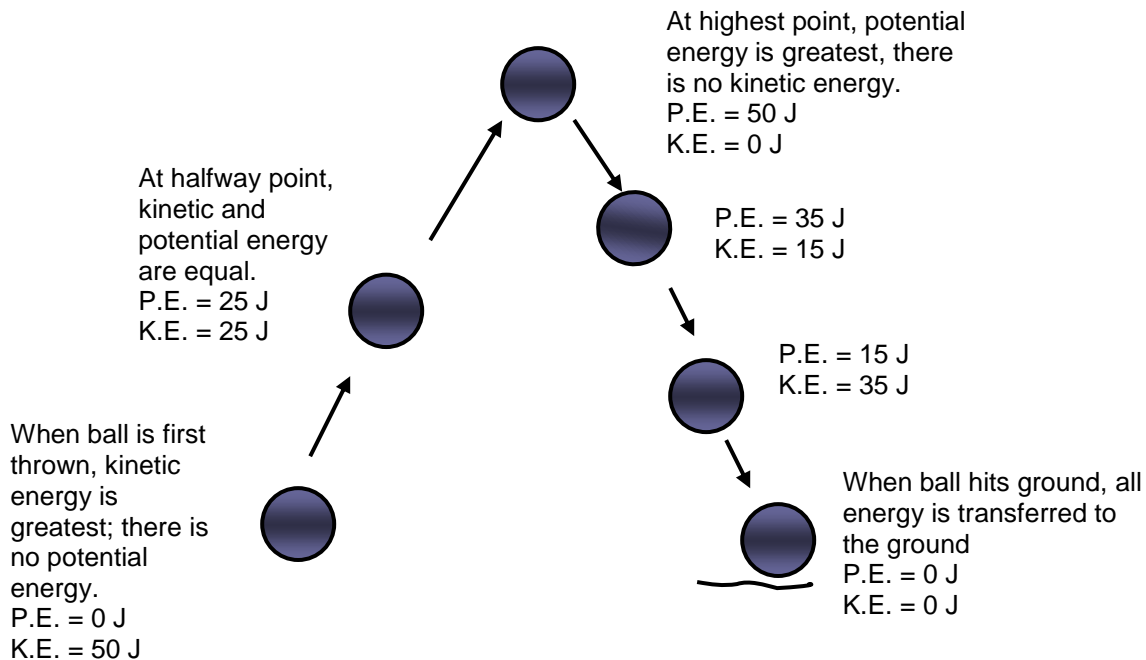

FIGURE 1: Kinetic and Potential Energy are Closely Related
Example: If a ball is thrown, it rises in the air with a certain amount of kinetic energy. The kinetic energy gradually gets changed to potential energy as the ball moves against the pull of gravity. At the point where the force of gravity finally stops the upward motion of the ball (the highest point), all the kinetic energy is now converted to potential energy. The ball has no motion but it has lots of potential to fall back down. See Figure 1.
- You can see from Figure 1 that the amount of kinetic energy is greatest when a ball is first thrown upwards and also just before it returns to the ground.
We saw this in Figure 1. The ball is thrown with 50 J of kinetic energy. At every point in the trajectory, there is a total of 50 J of energy acting on the ball. This is true until all of the energy is transferred to the ground when the ball hits.